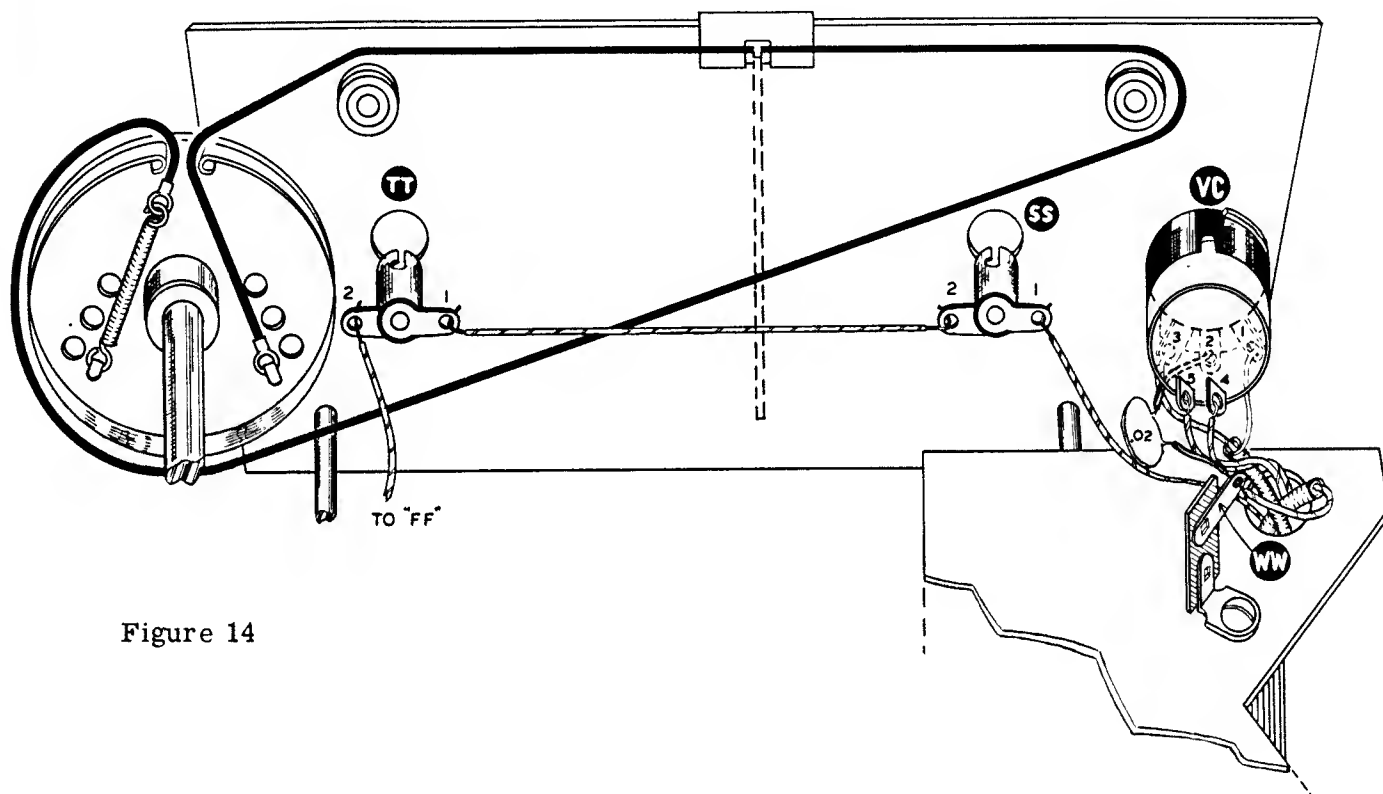
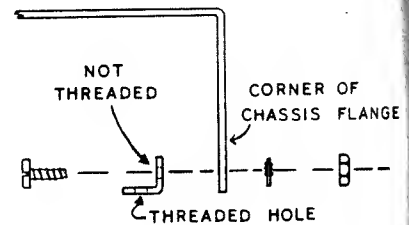

Figure 14
Figure 15
- () String the dial cord as shown. It has been pre-cut to the proper length and no further adjustment is necessary. See Figure 14.
- () Turn the receiver over and insert the end of the line cord through grommet N at the rear of the chassis. Tie a knot 2 1/2" from the end. Connect one lead of the line cord to M1 (S) and the other lead to M3 (S).
- () Mount the four angle brackets as shown in Figure 15, using 6-32 x 3/16 screws, lockwashers and nuts.